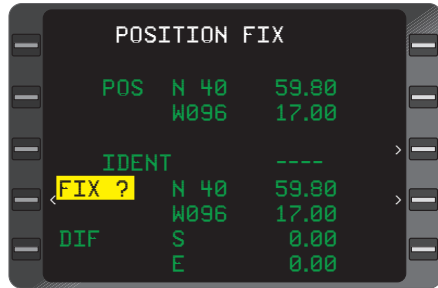

Figure 3-177
2. Line Select Key - DEPRESS ONCE to place the cursor over the **FIX** field. The field will display **FIX?** (Figure 3-177)